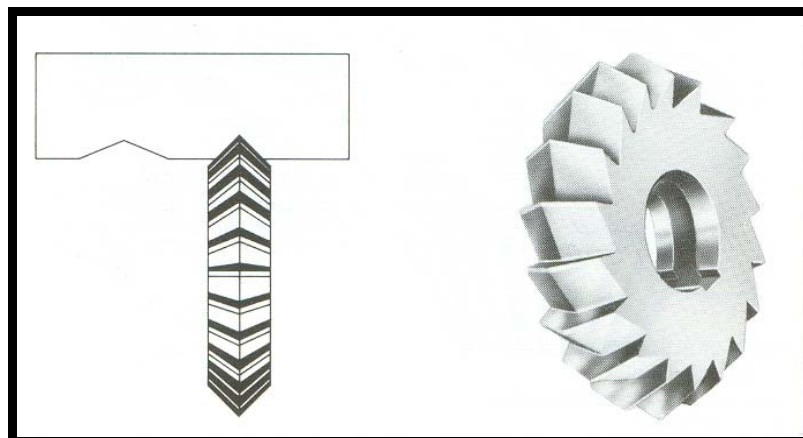
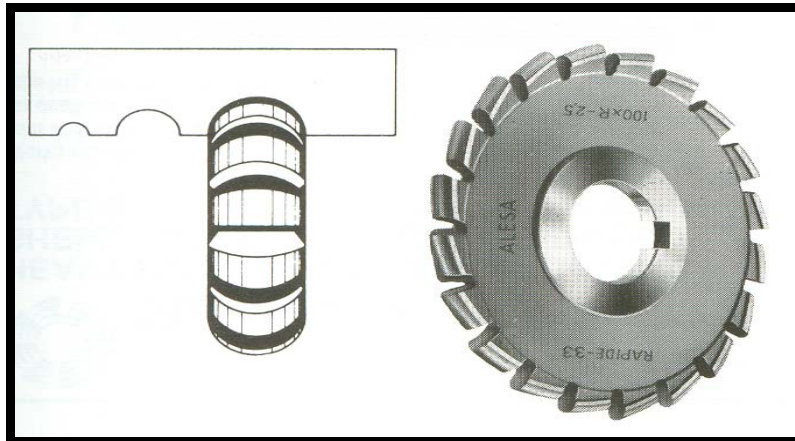

FIGURE 5.1
FIGURE 5.2
5.8 Mr Smit is busy manufacturing machine parts where he must do different milling processes. Help him to identify the milling cutters shown in FIGURE 5.1 and FIGURE 5.2. Write down the figure number and then the answer.